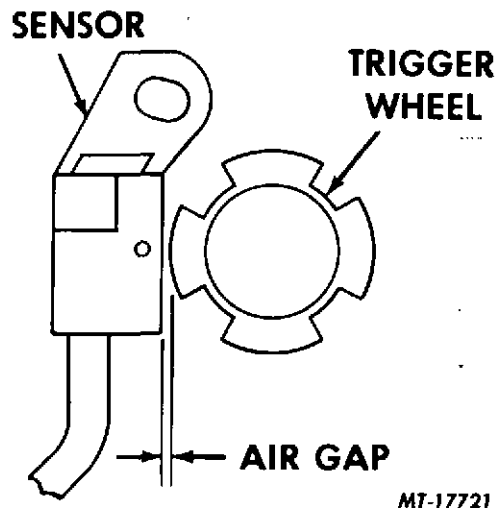

Fig. 18 Trigger Wheel-to-Sensor Air Gap
- a. Rotate trigger wheel until one tooth is aligned with centerline of sensor (trigger wheel tooth perpendicular to flat surface of sensor)(Fig. 18).
- b. Using feeler gauge, measure air gap between sensor and end of tooth (Fig.18). Move sensor as needed to obtain specified air gap (0.2 mm - .008"). Tighten sensor mounting screw and recheck air gap.